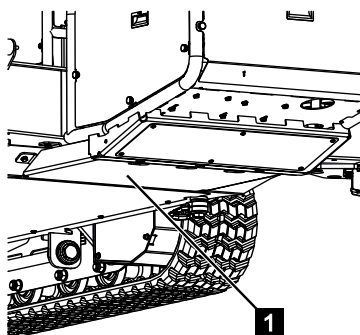

Fig. 240
3. Remove the cover plate (Fig.240/1).